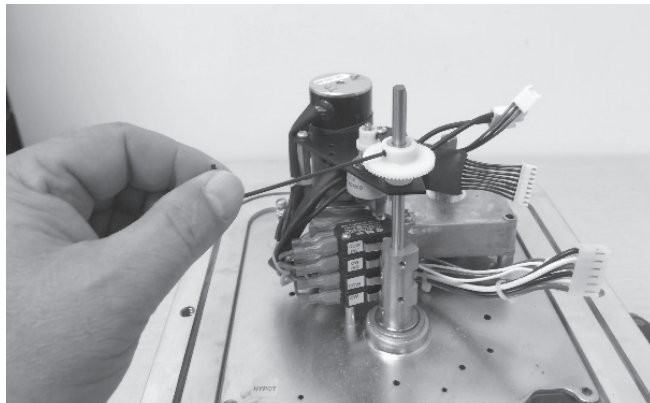

Figure 28.
- 4.30 Re-install the cam shaft gear, see Figure 28. (Do not tighten securely yet, as the potentiometer will require calibration)